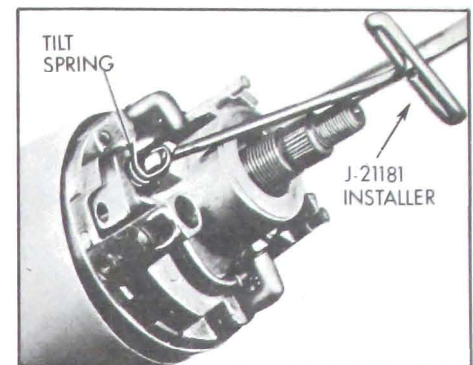

Figure 8-86—Installing Tilt Springs
9. Connect the upper ends of the two tilt springs using Installer J-21181 (See Figure 8-86) to lobes on actuator.